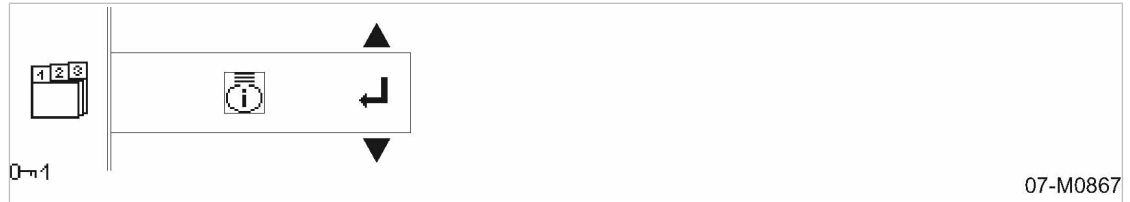

Fig. 35 Password level 1 activated.
- The activated password is displayed. (see example in figure 35).